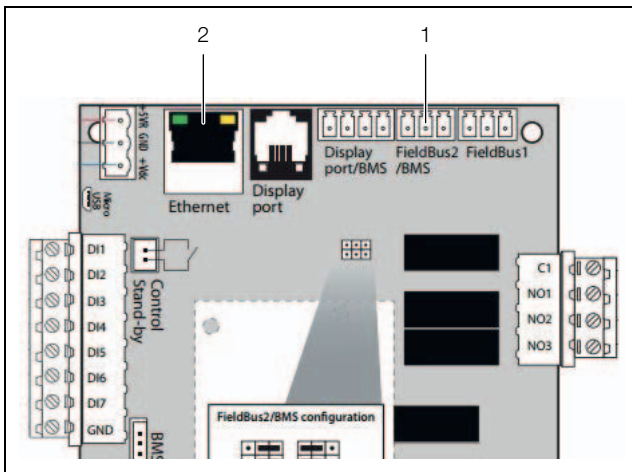

Fig. 19: Connectors
- On the board use the "FieldBus2" connector (fig. 19, item 1) to connect the appliance to a monitoring device.
- On the board use the "Ethernet" connector (fig. 19, item 2) to connect the appliance to a monitoring device via web pages.